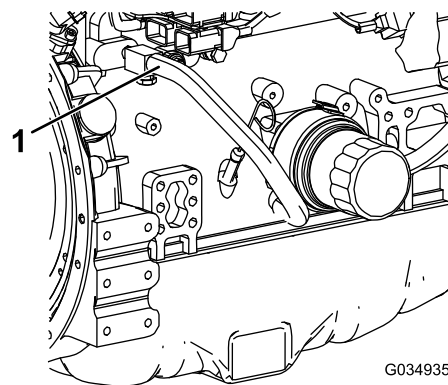

Figure 120
7. Remove the coolant hose from the engine-oil cooler (Figure 120).